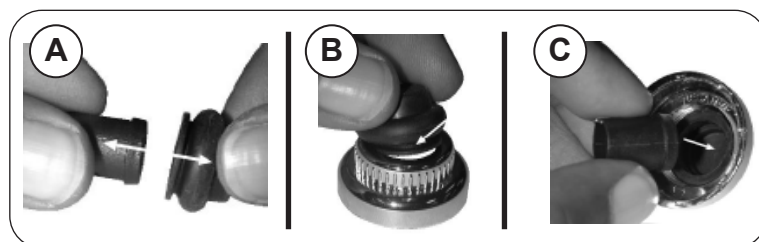

Fig. 31-5 Rubber cap replacement
1. Pull the rubber cap and the inner plastic sleeve apart (see Fig. 31-5, A).
2. Carefully insert the rubber cap into the igniter cover so it sits behind inner lip (see Fig. 31-5, B).
3. Turn the cap over and slide the inner plastic sleeve into the cap (see Fig. 31-5, C).